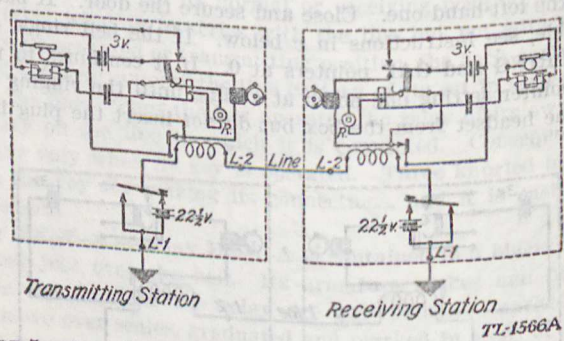
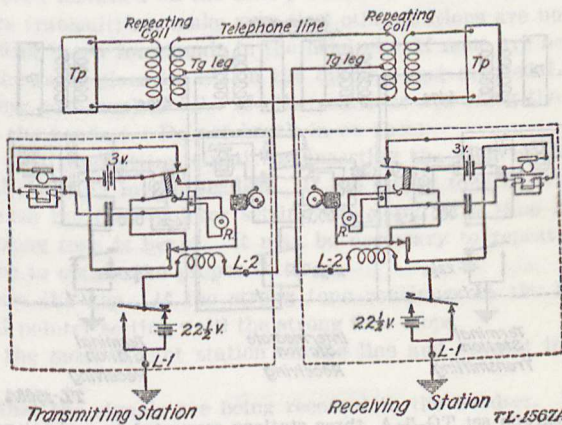

FIGURE 5.—Telegraph set TG-5-A, transmitting and receiving circuit.
FIGURE 6.—Telegraph set TG-5-A, two terminal stations connected to a simplex telephone circuit.
22. Testing the transmitting and receiving circuit (fig. 5).—Having completed the actions directed in paragraphs 20 and 21, test the transmitting and receiving circuit as follows:
(2) *Line connection.*—If the ground has been connected to L1, connect the line to L2. This line may be a wire which is to be used exclusively for telegraph, in which case the two terminal stations are connected as shown in figure 5. Usually, however, this line will be the telegraph leg of a simplex telephone circuit, in which case the two terminal stations are connected as shown in figure 6.
b. As an intermediate station on a ground-return circuit.—No ground connection is necessary at an intermediate station. Connect the line leading to one terminal station to L1 and the line leading to the other terminal station to L2. As in a (2) above, these lines may be either lines which are to be used